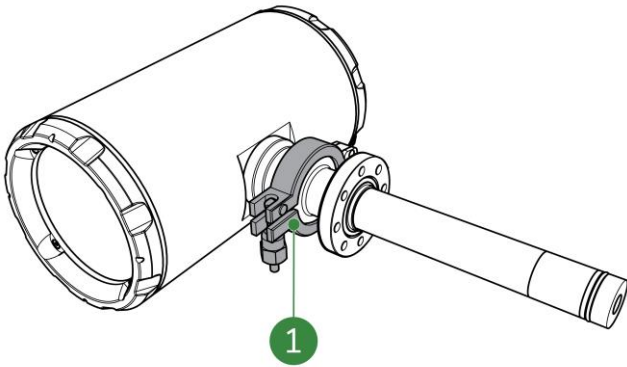

Figure 8-4: Tri-clamp nut loosening
4. Loosen the nut of the tri clamp (Figure 8-4, pos. 1).